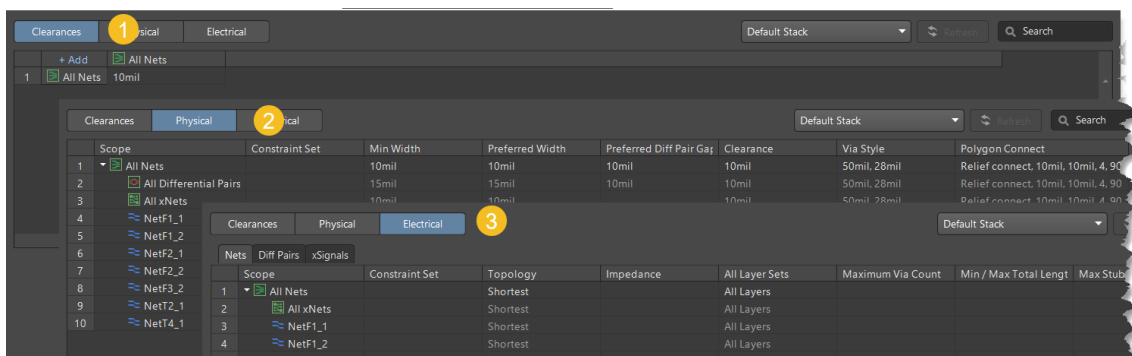

Figure 3. The three Constraint Views for SCH Constraint Manager
15. With the schematic as active document: Go to **Design » Constraint Manager (D»G)** to open the *Constraints Manager* dialog, as shown in Figure 3.